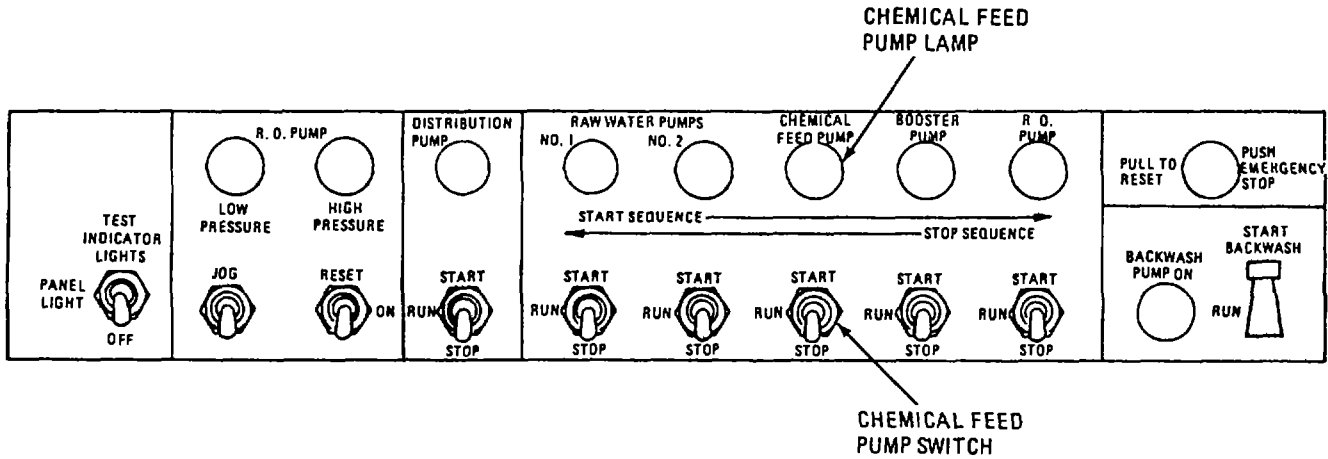

Figure 2-55. Chemical Feed Pump Start Switch.
d. Start Chemical feed Pump. Refer to figure 2-55.
- (1) Set CHEMICAL FEED PUMP switch on control box to START.
- (2) Hold switch at START position until CHEMICAL FEED PUMP lamp comes on.
- (3) Release switch. Switch will return to RUN.